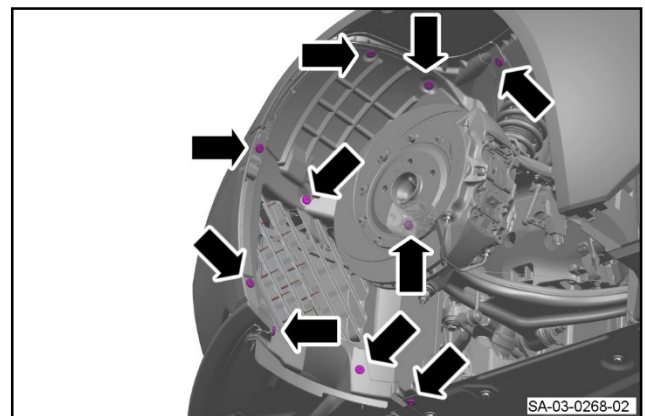

Figure 9
11. Install the 10 screws that attach the front section of the front left side wheel arch liner to the body (refer to Figure 9).